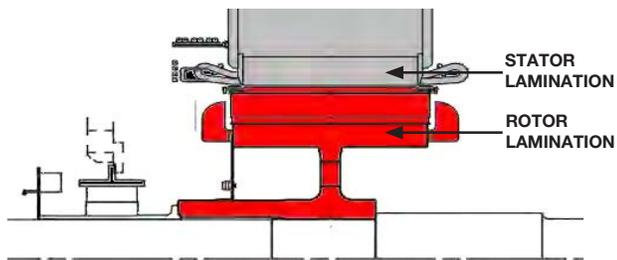

Figure 10-2: Magnetic Center
The magnetic center is a reference position which is determined as the location of the rotor in the stator where no axial forces are generated by the magnetic fields. The motor has been assembled at the WEG Electric Machinery factory so that the rotor will operate at the magnetic center when the shaft is axially centered between the bearings, as shown in Figure 10-2. The magnetic center may be accurately verified using the following procedure.
- Using two, small, parallel rods; touch the outermost stator lamination and simultaneously the outermost rotor lamination, as shown in Figure 10-2.